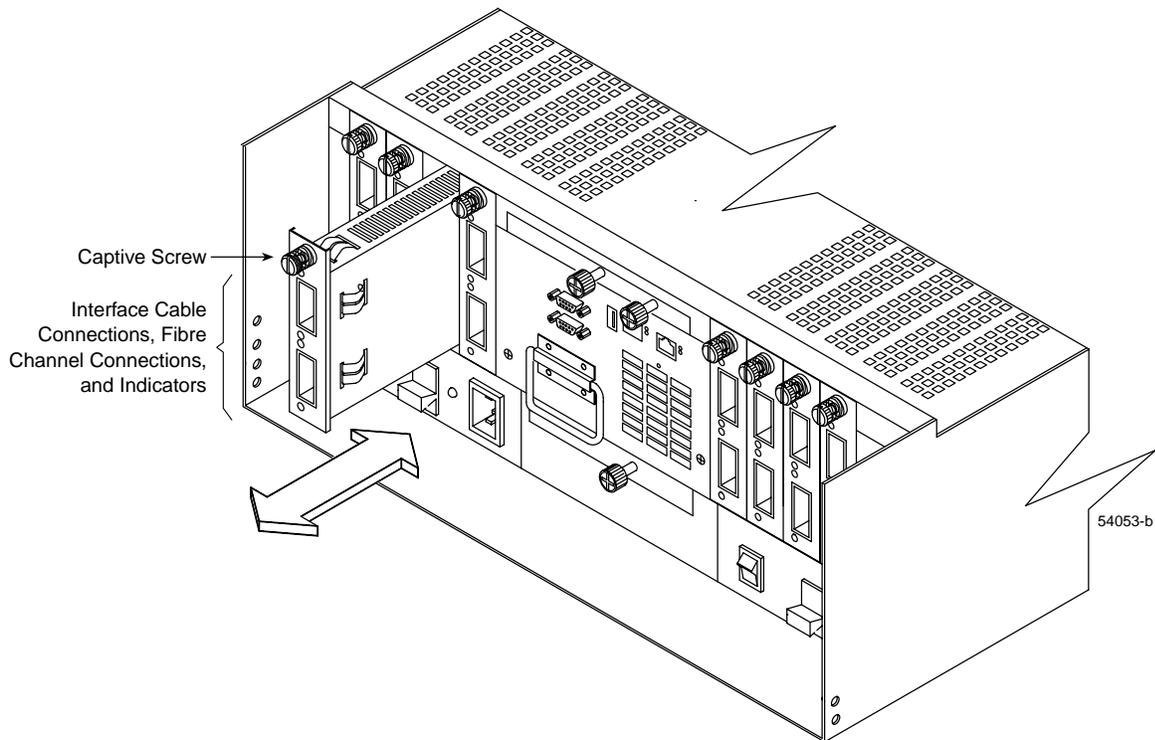

Figure 4-13 Removing and Installing a Minihub
6. Unfasten the captive screw on the minihub and remove it from the chassis (Figure 4-13).